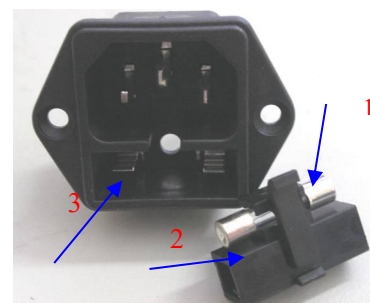

Fig. 4.
- Installation of fuse as Fig. 4.